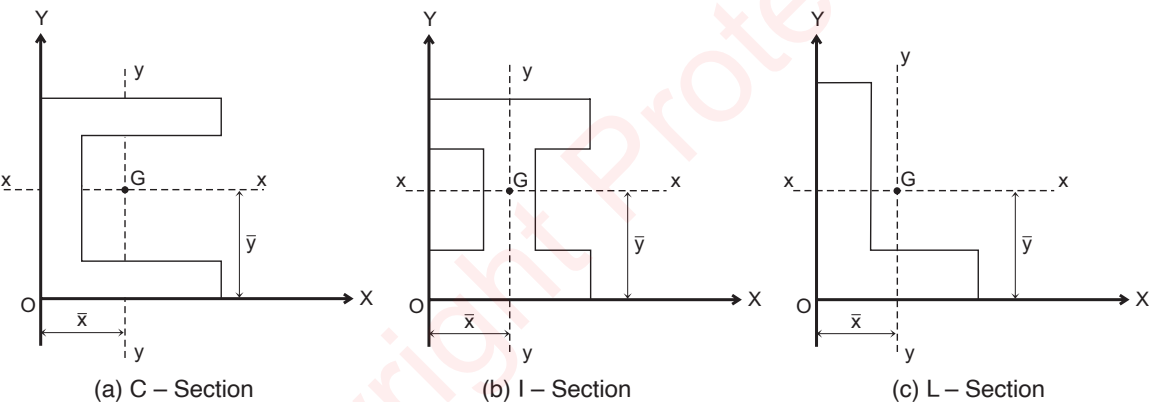

Fig. 4.3: Axis of symmetry
- (b) **C- Section (Channel)** [fig. 4.3(a)] Section is symmetrical about x - x axis. So $\bar{y}$ is directly available and $\bar{x}$ is to be calculated.
- (c) **I-Section** [fig. 4.3(b)] Section is symmetrical about both x - x and y - y axis. So $\bar{x}$ and $\bar{y}$ both are directly available.
- (d) **L-Section (Angle Section)** [fig. 4.3(c)] Section is not symmetrical about any axis. So $\bar{x}$ and $\bar{y}$ both are required to be calculated.